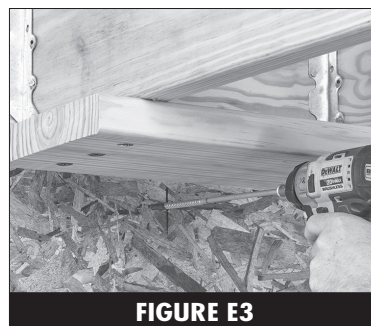

FIGURE E3
4. Place the point of the long screw along the center line of the stud and approximately 3/4" below the bottom of this blocking. **(Figure E3)**